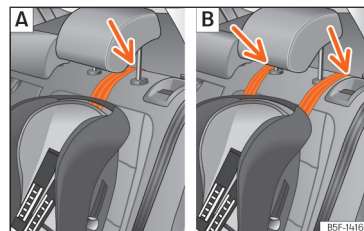
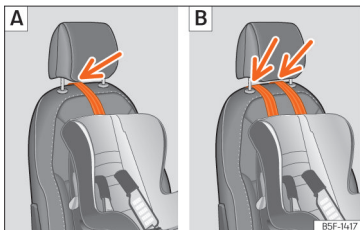

Fig. 47 Rear seats: adjustment and assembly according to the Top Tether belt.
Fig. 48 Passenger seat: adjustment and assembly according to the Top Tether belt.
- Position the belt under the headrest (according to the instructions of the seat itself, lift or remove the headrest if necessary) >>> **Fig. 47**, >>> **Fig. 48**.